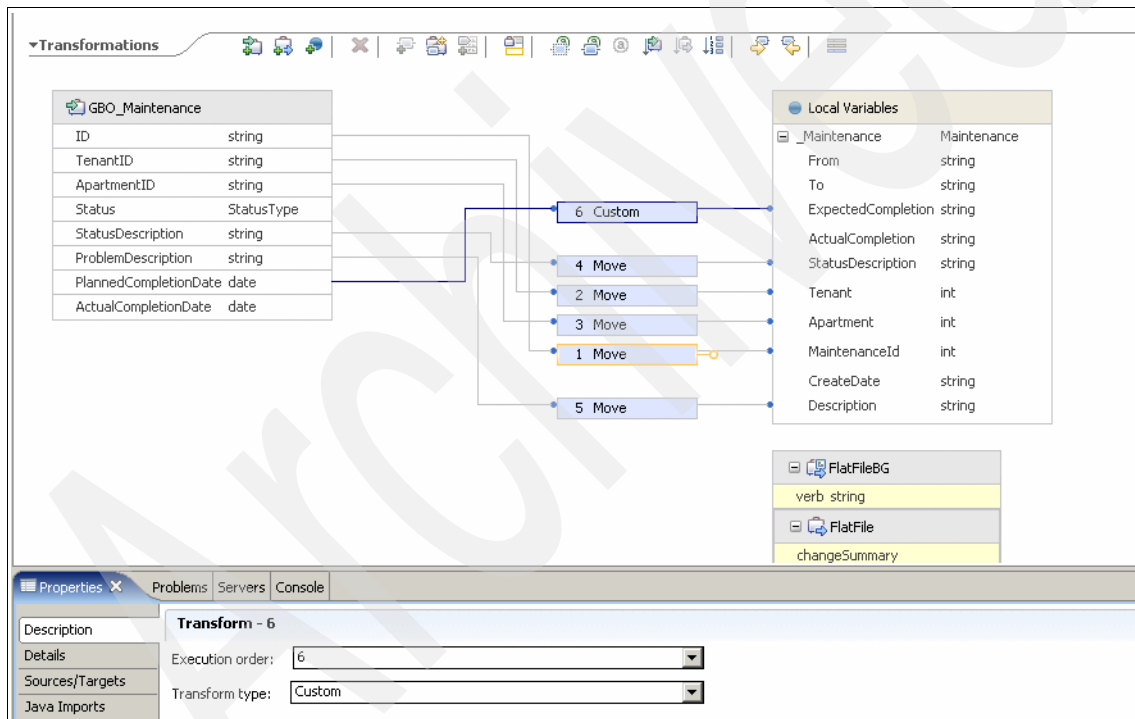

Figure 2-27 Custom transform
8. Select **Transform type custom** on the Description tab in the Properties view (Figure 2-27).
13. Click the **Choice** tool for the *if true - Otherwise* condition (Figure 2-27 on page 38).